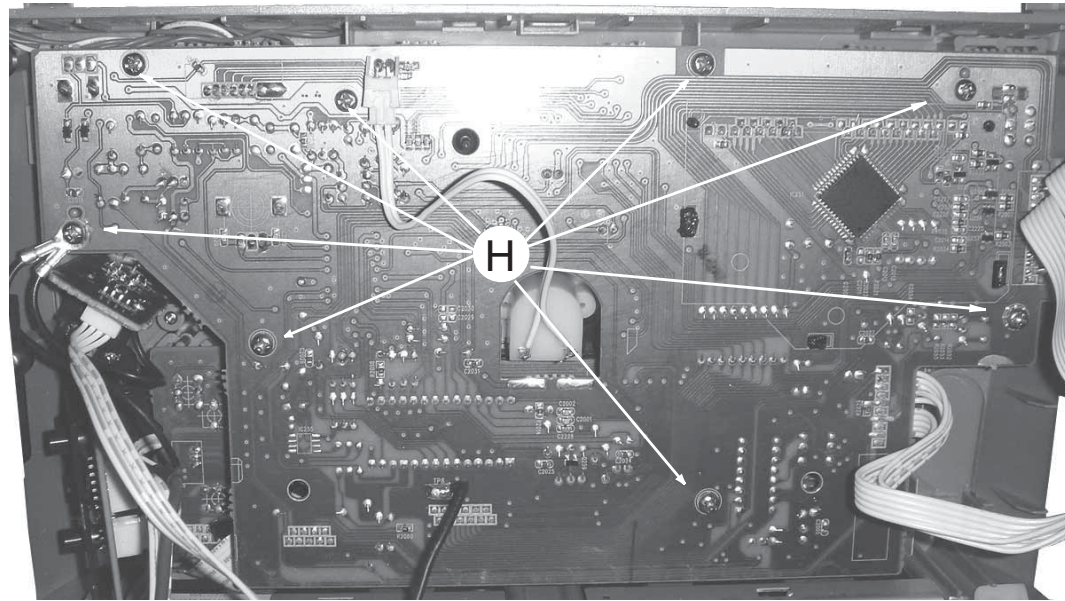

Figure 11
1) Loosen 8 screws 'H' to remove the control board figure 11.